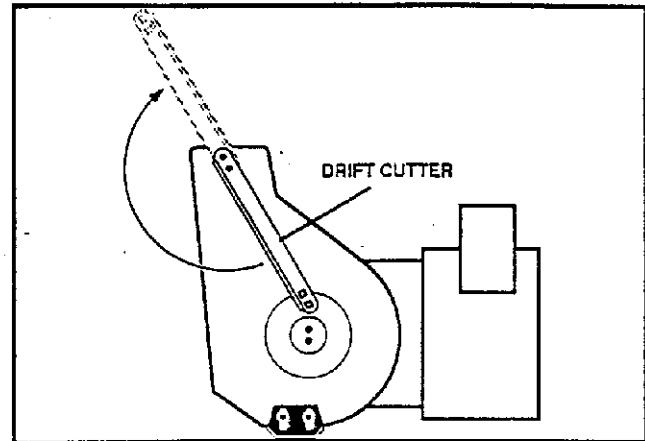

FIG. 8-ASSY
- Remove the fasteners securing the drift cutters and then rotate drift cutters 180° (See FIG. 8-ASSY).